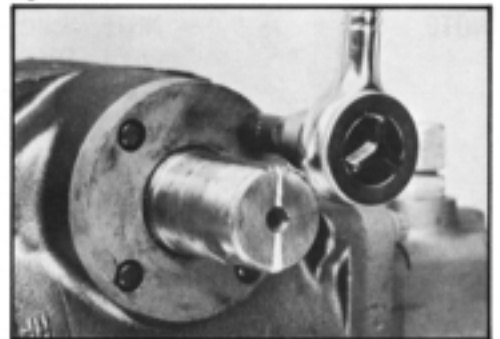

Figure 47
5. Remove the four trunnion cover screws (60). A 5/16 inch 12 point thin wall socket required. SEE FIGURE 47.